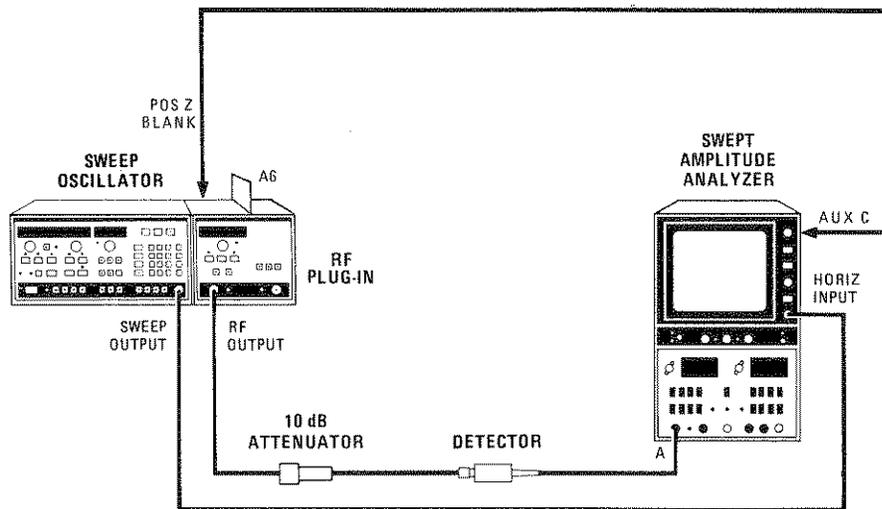

Figure 5-17. Slow Speed YTM to YO Tracking Test Setup
1. Connect the equipment as shown in Figure 5-17 with the 83595A A6 Sweep Control board on an extender. Allow the equipment to warm up for one hour.
1. Connect the equipment as shown in Figure 5-17 with the 83595A A6 Sweep Control board on an extender. With the LINE power OFF, remove the 83595A A4 ALC board. Connect the 8755C MODULATOR DRIVE output to the 83595A rear-panel PULSE IN connector.